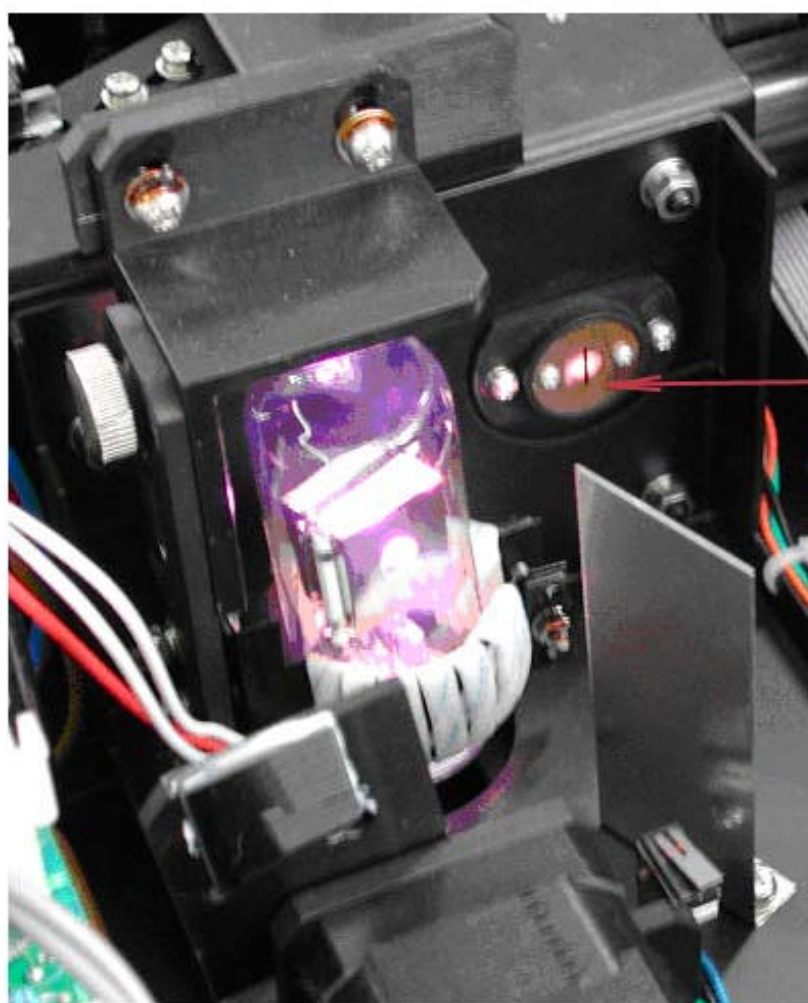

Fig A7
9. Re-fit the grey metal protection cover, Fig. A4. Temporarily re-fit the main cover and fix with two screws, one each side. Switch on and remove the grommet from the middle of the rear panel. You can now look through the hole and view the image of the lamp on the slit. Check the lamp alignment Fig. A7. If the image is not covering the slit, the lamp alignment needs adjustment. This requires running the UV-4802 without the covers, with high voltages accessible, and so should only be performed by a suitably qualified engineer. If adjustment is required, remove the cover and grey protection cover, put on UV protection glasses and turn on the instrument. Adjust to make the image central on the slit, Fig. A7. Install the grey metal protection cover and cover of instrument.